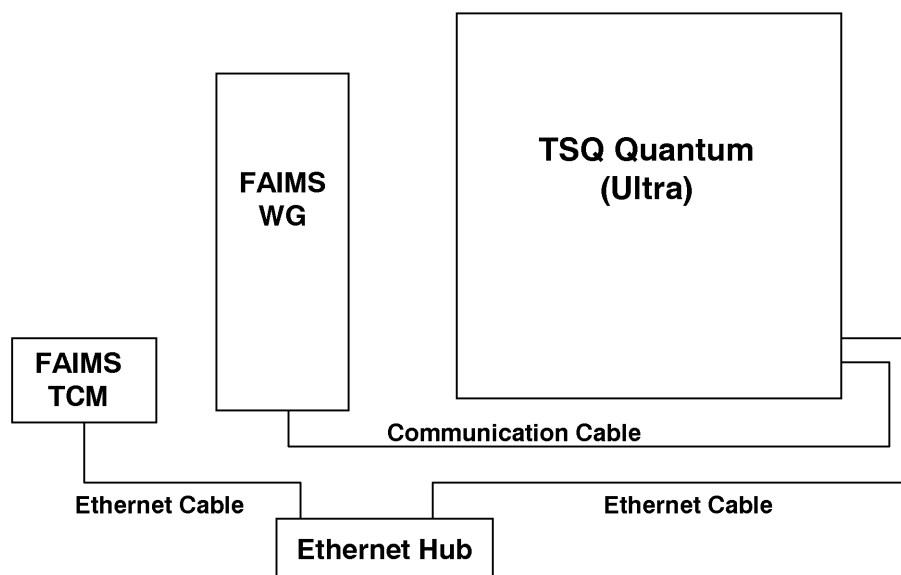

Figure 47. Waveform generator (WG), temperature control module (TCM), and TSQ Quantum or LTQ communication
Figure 47 shows a block diagram of the communication connections of the TSQ Quantum or LTQ, FAIMS temperature control module (TCM), and FAIMS waveform generator (WG). The TSQ Quantum or LTQ communicate with the FAIMS waveform generator via an RS 232 connection. The TSQ Quantum or LTQ communicate with the FAIMS temperature control module through the Ethernet hub via an Ethernet connection.